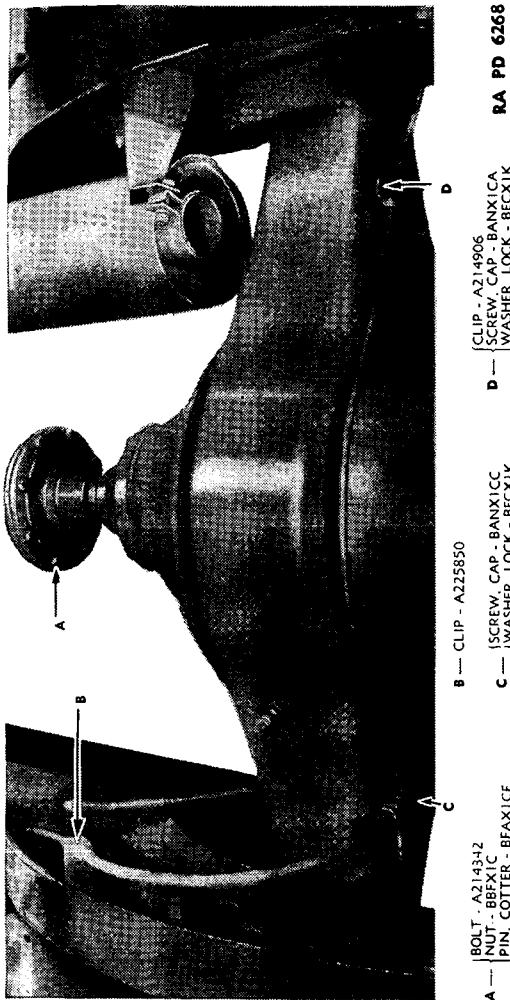

FIGURE 46.—Rear wheel brake lines, installed.
d. Disconnect brake lines—9/16-inch, open end wrench. Break hydraulic hoses at wheel cylinders and remove cap screw (BCAX1CC) and lock washer (BECX1K) holding brake line tee (A167679) to differential housing, and cap screw (BCAX1CA) and lock washer (BECX1K) holding brake line clip (A214906) to axle housing (fig. 46).
(1) Disconnect rear propeller shaft— $\frac{9}{16}$ -inch open end wrench, $\frac{9}{16}$ -inch socket wrench. Remove eight $\frac{3}{8}$ -inch bolts, nuts, and cotter pins holding universal joint flange to jackshaft companion flange (fig. 46).
(2) Drain lubricant— $\frac{9}{16}$ -inch open end wrench. Remove magnetic drain pipe plug (A214913) from housing and drain lubricant.
(3) Remove floor plate— $\frac{7}{16}$ -inch socket wrench. Take out screw (BCNX2CF) and nut (BBAX1A) securing floor plates (B185254) over differential housing and remove plates.